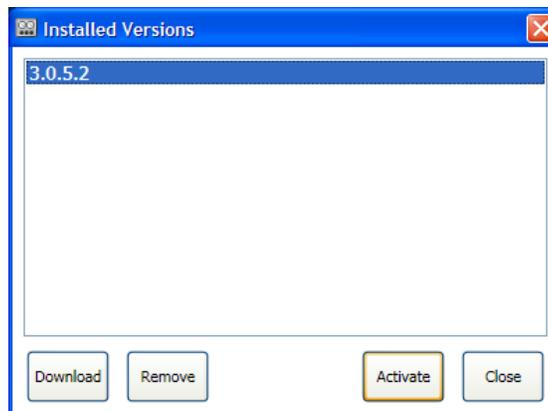

Figure 2-38: Installed Versions Window - 3.0.5.2
3. In the *Installed Versions* window, select **3.0.5.2** and click the **Activate** button, as shown in Figure 2-38.